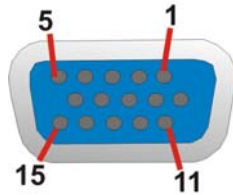

Figure 3-33: VGA Connector
- CN Pinouts:** See **Figure 3-33** and **Table 3-10**